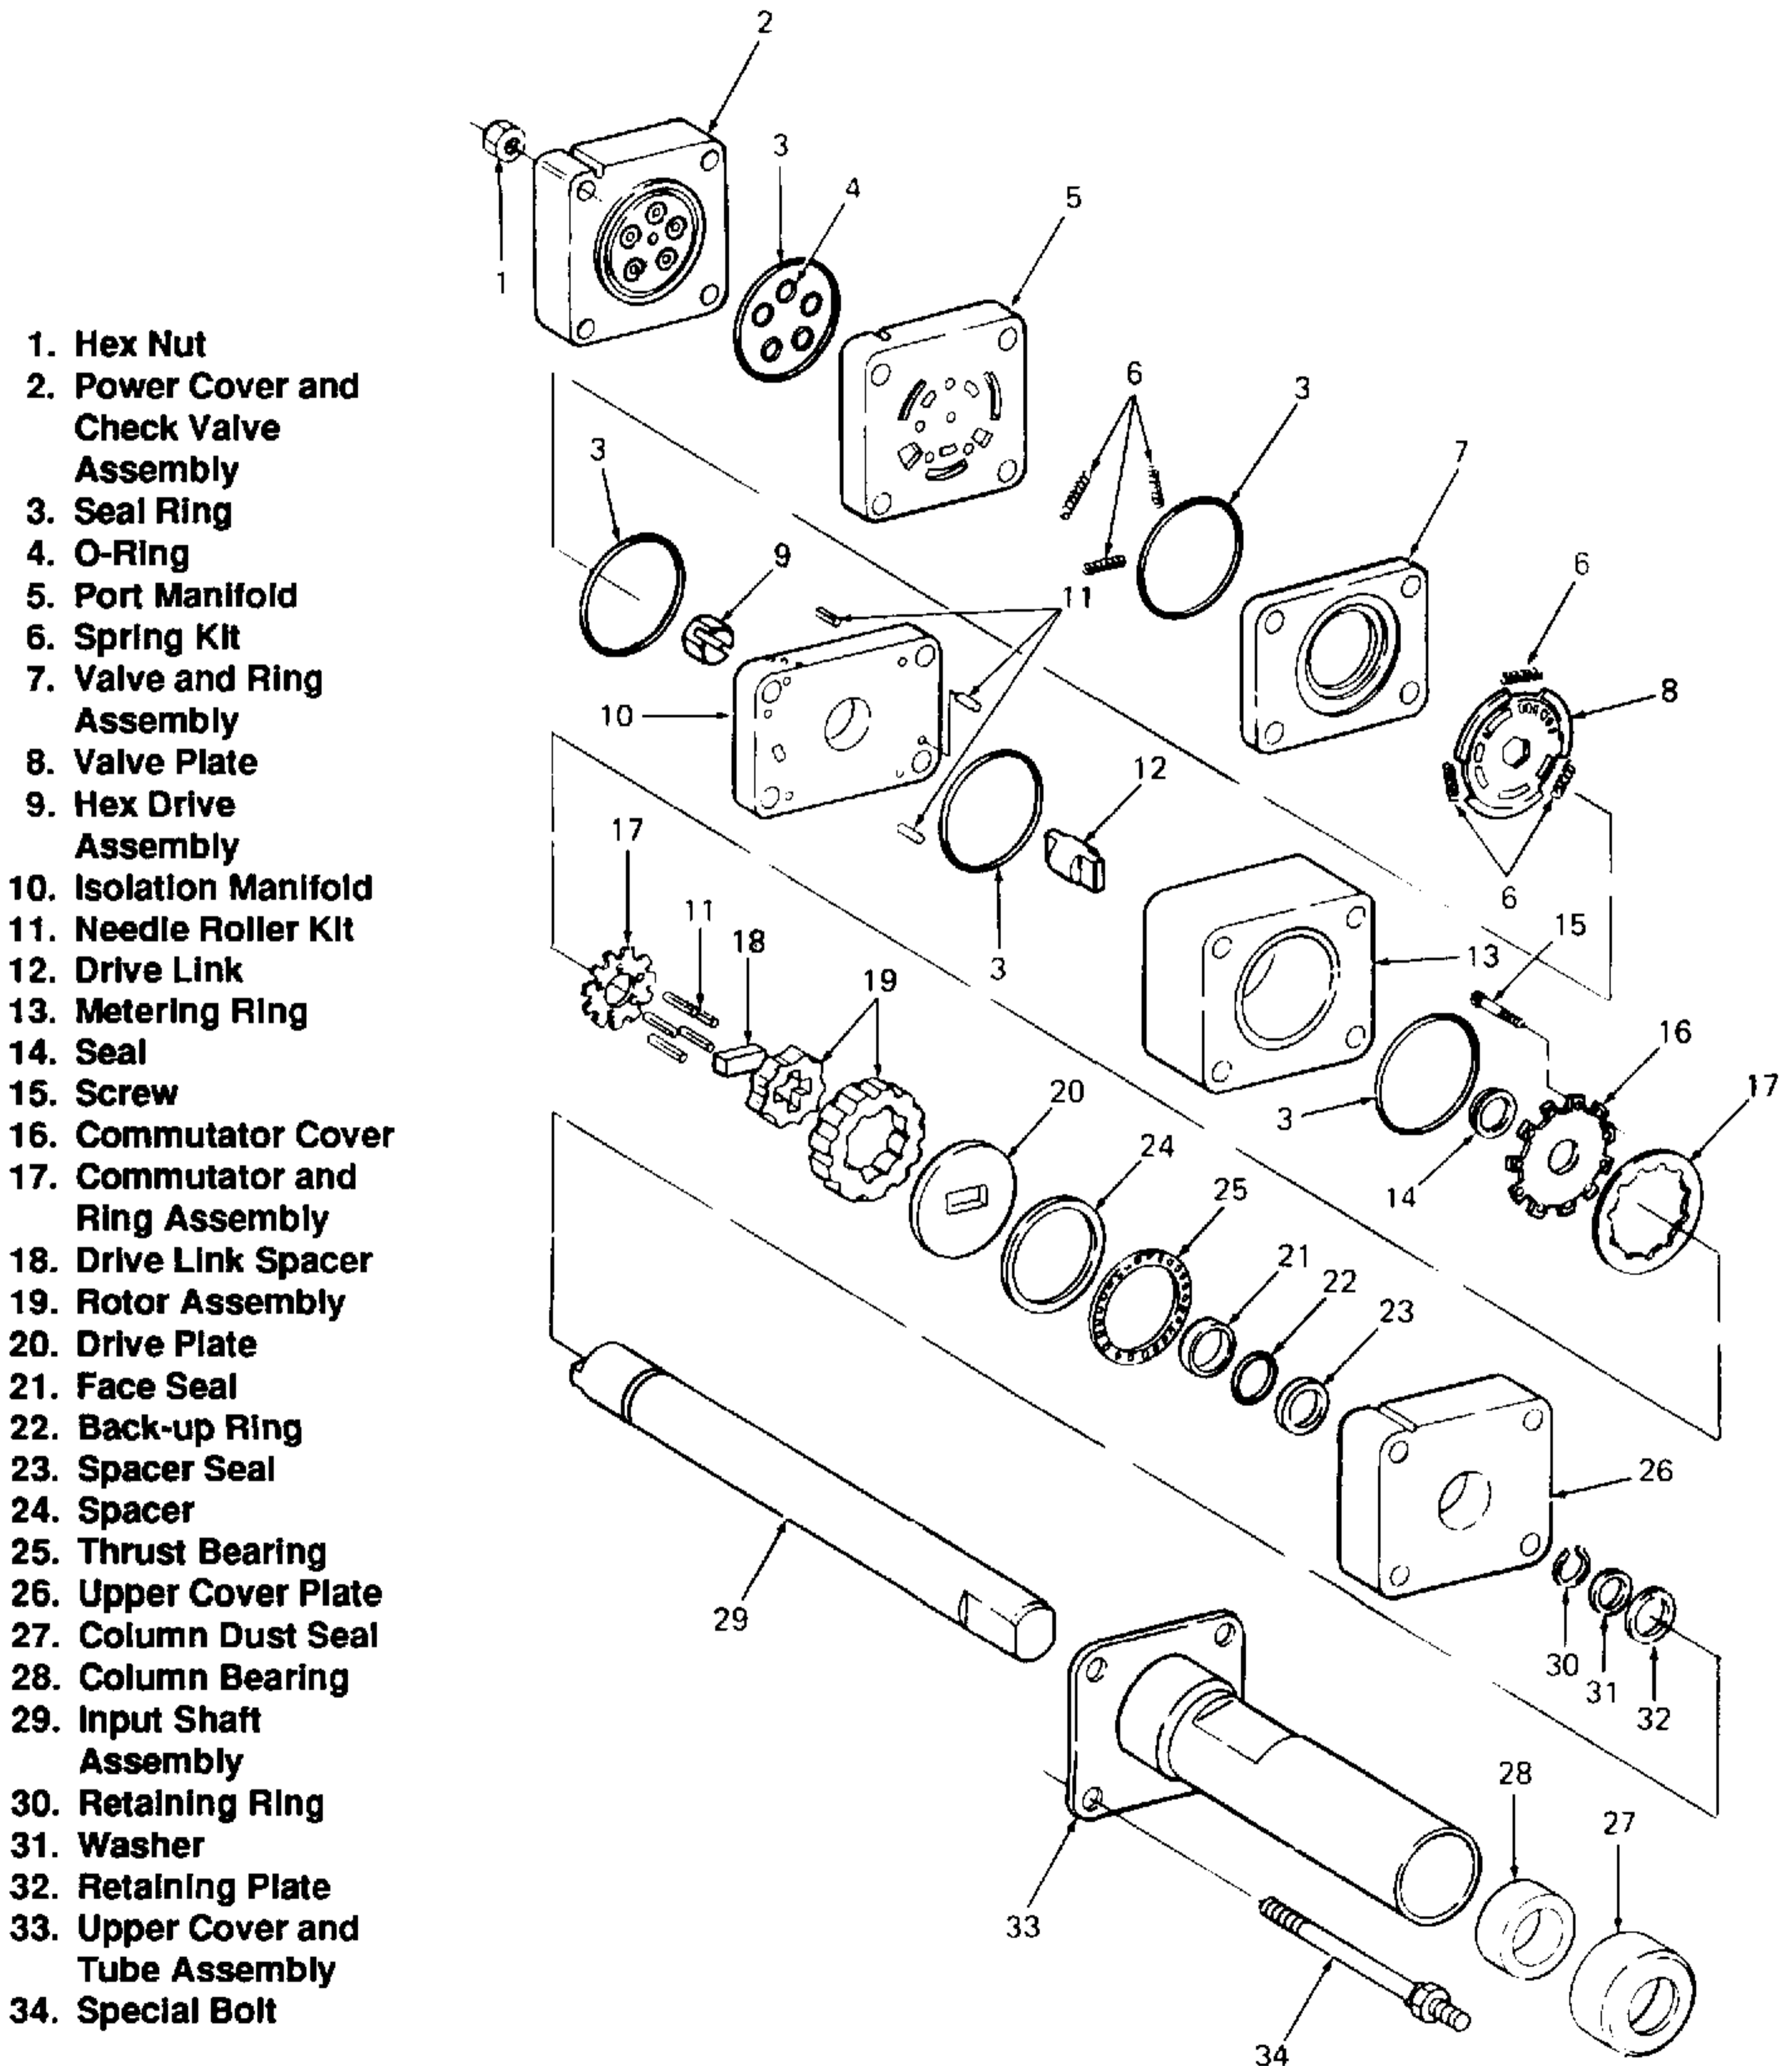

Figure 5-40. Power Steering Box Assembly (Models 1782, 1862, 1882, 2082 and 2182).
3. Remove power cover and check valve assembly (2, Figure 5-40) by removing hex nuts (1).
4. Remove and discard seal ring (3) and O-rings (4).
5. Remove port manifold (5) and springs (6) located on manifold.